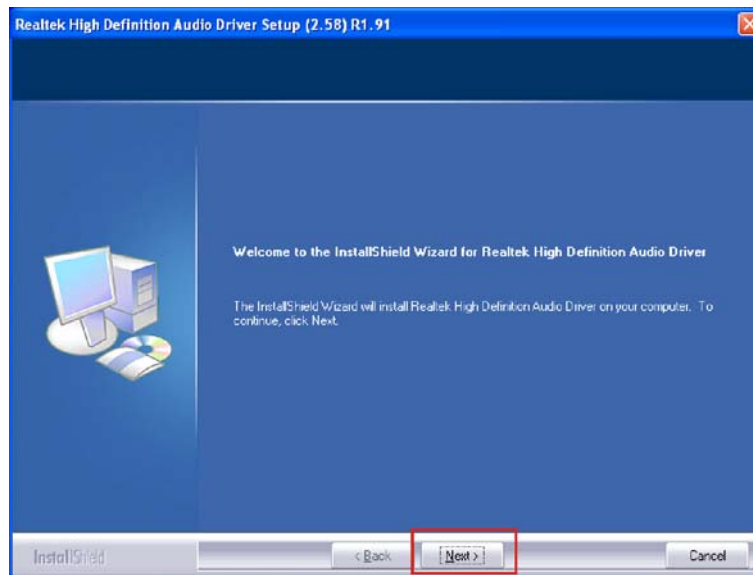

Figure 6-19: Audio Driver InstallShield Wizard
Step 4: The **Audio Driver InstallShield Wizard** window appears (Figure 6-19).
Step 5: Click **NEXT** to start the audio driver installation (Figure 6-19).